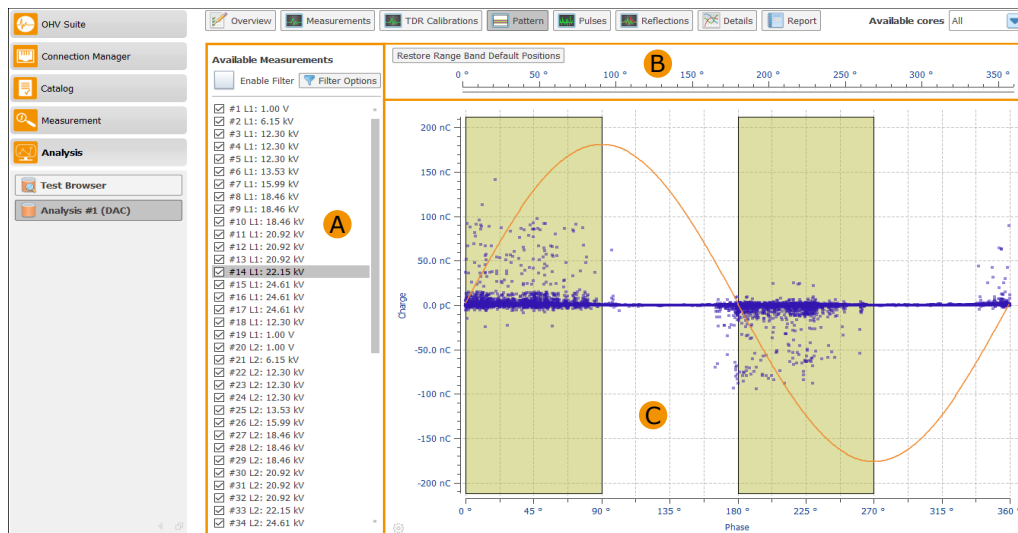

Figure 8.11: Analysis Pattern (DAC test)
The pattern overview (cf. Figure 8.11) contains the data of all selected shots (A) as phase resolved PD events. In the (B) area, the overflow diagram is displayed where all PD events outside the maximum pattern scaling are sorted. Furthermore, it is possible to reset the selection ranges for reflection search to the default values. The pattern diagram is displayed in the (C) area. Noise can be excluded when selecting the analysis ranges. By moving the edges of the yellow rectangle the analysis ranges can be changed. The newly selected areas are then used within the reflection analysis. After changes to the analysis ranges, it is always necessary to run the reflection analysis again.